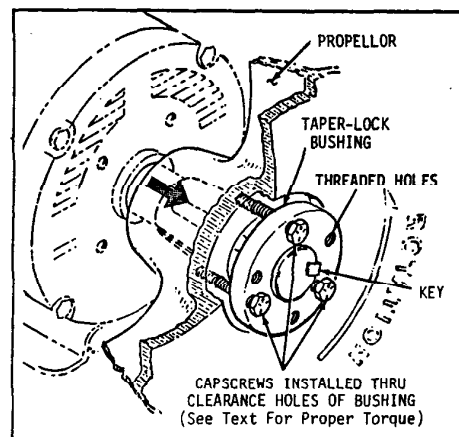

FIG. 3 - CAPSCREW ARRANGEMENT FOR REASSEMBLY
CLEARANCE HOLES - When reassembling parts, the capscrews must be installed through the UNTAPPED CLEARANCE HOLES, as shown in Fig. 3, to cause the propeller to be pulled forward onto the tapered bushing, thus locking the parts securely onto the motor shaft. Refer to text for assembly details.
- Use an INCH-POUNDS torque wrench and GRADUALLY TIGHTEN the capscrews (1/4 turn at a time) until the taper bushing becomes fully seated. Refer to the following chart for the recommended capscrew tightening torques. DO NOT EXCESSIVELY OVERTIGHTEN THE BUSHING. See Figure 3.